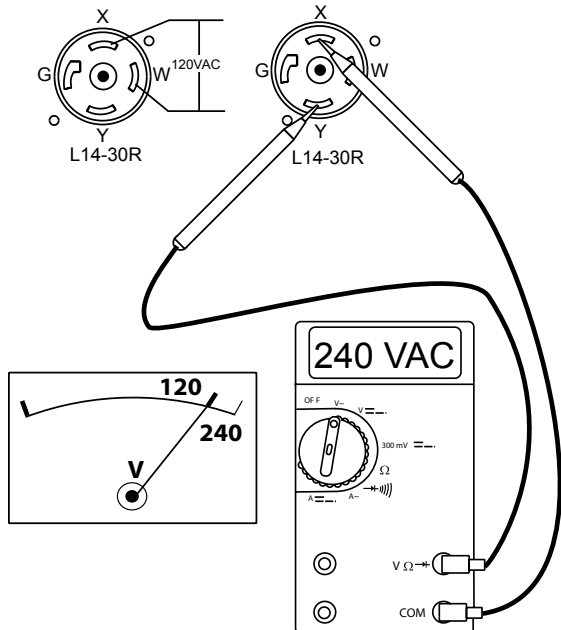

Figure 28. 120/240V L14-30R Receptacle
- The L14-30R receptacle is a dual voltage receptacle (120/240 volts). Using an external voltmeter as shown in Figure 28, verify that 120/240 VAC is present at the L14-30R twist-lock receptacle.